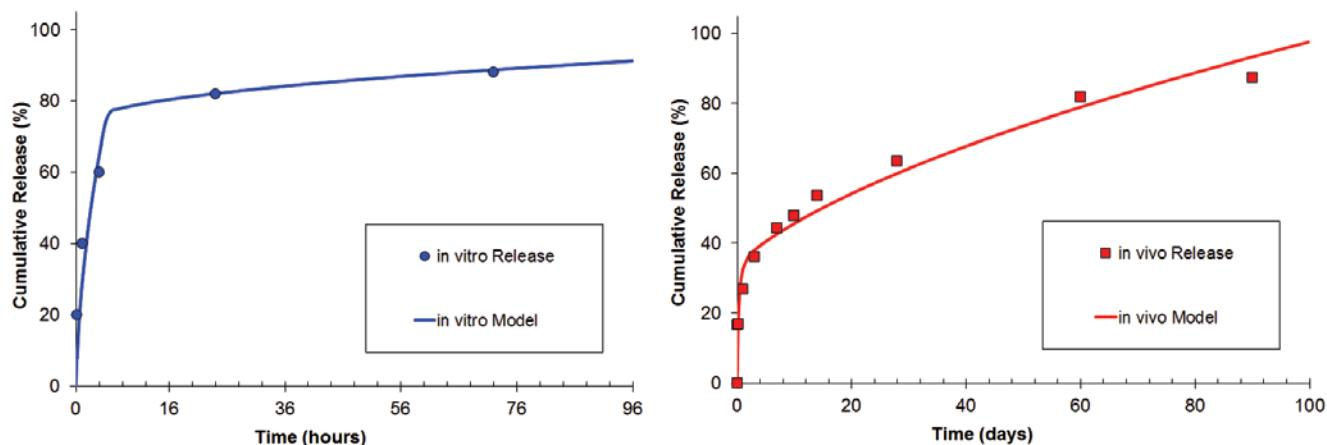

FIGURE 4. Simulation results alongside experimental results showing release curves for the in vitro and in vivo cases.
**FIGURE 4.** Top, middle: top-down and cross-sectional views of the von Mises stress and displacement in a one-inch square sample of a composite structure layout. At bottom, transparency was used to show the high stress in the composite structure and EMF. Stress was evaluated along the vertical line extending through the depth of the sample.
varied properties of the expanded metal foil. An example of the simulation results is shown in Figure 4.
Through the paint layer at the top of Figure 4, it is possible to observe the displacement pattern of the underlying EMF. The magnified cross-sectional view clearly shows the variations in displacement above the mesh and voids in addition to the trend in stress reduction in the uppermost protective layers. Figure 5 shows the relative stress for each layer in surface protective schemes that incorporate either copper or aluminum EMF. The fiberglass corrosion isolation layer required by the aluminum EMF acts as a buffer, causing the stress to be lower in the aluminum than it is in the copper EMF.
FIGURE 4. The water-cooled copper mold tube where the first solid steel shell forms is the heart of every continuous caster. Inset: Model of primary solidification and shell growth in the copper mold.
The SMS Concast team used their COMSOL model to understand the complex heat exchange processes taking place during the first solidification of the steel in the mold. The results guided the design of a new type of mold to cast billets with large rounded corners (see Figure 4). These corners stay warm after casting,
the experimental data. The release curves (see Figure 4) confirm that the medicine in the pores releases quickly, while the dispersed molecules in the shell diffuse slowly through the encapsulating polymer. The results in Figure 5 depict the faster dissolution and diffusion in the pore, compared to the shell.
Next, de Jonge optimized the coil-driven iris and shutter mechanisms (see Figure 4). The iris is driven by a voice-coil actuator and contains four stainless steel blades that rotate around frictionless bearings. The shutter is a magnetic latching device.
**FIGURE 4.** Left: Components of the iris assembly, including the coil, wiring, and housing. The edges of the blades (internal) are visible through the center of the aperture. Right: Shutter mechanism.